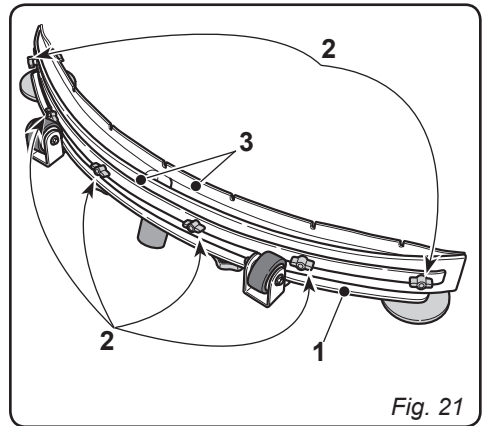

Fig. 21
10.1.f - Replacing the squeegee rubber blades (Fig. 21)